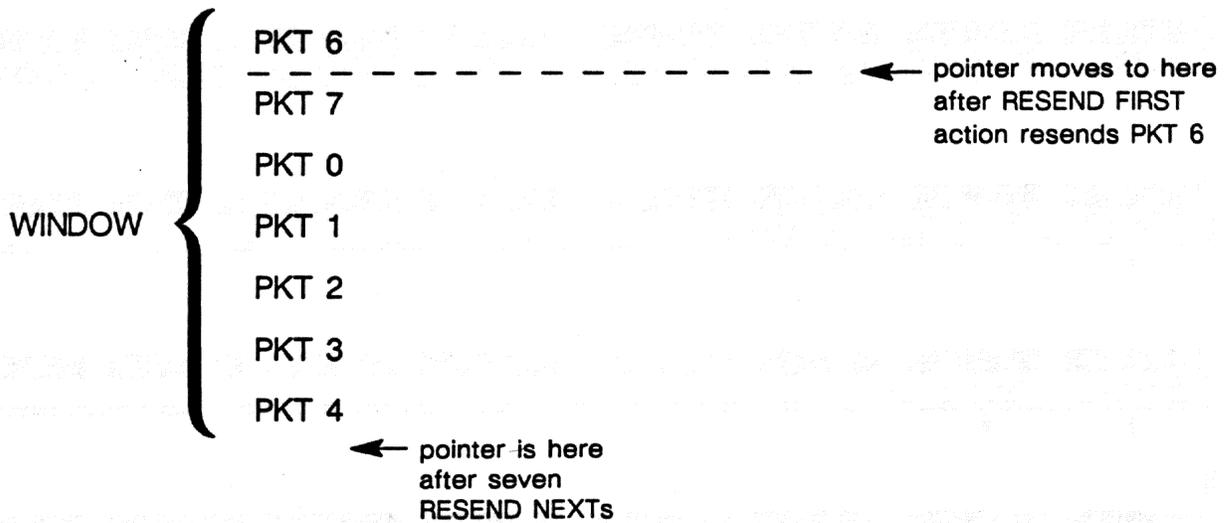

Figure 34-32 RESEND FIRST resets the pointer, allowing you to resend the entire window repeatedly.
1. *Resend first/next.* RESEND FIRST means that the resend-pointer is reset to the beginning of the window, the first packet in the window is resent, and the pointer is advanced to the second position in the window. The effect of a RESEND FIRST action is illustrated in Figure 34-32.